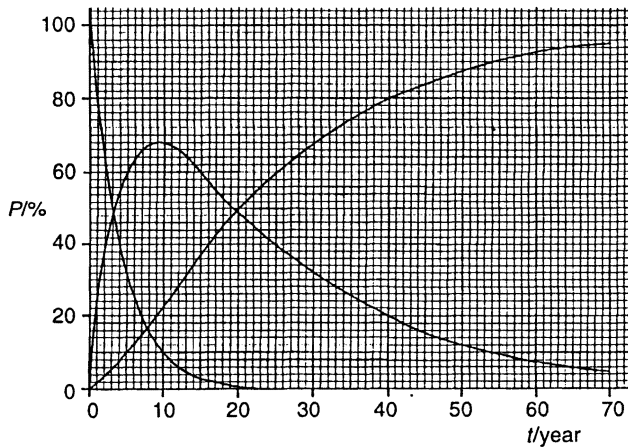

Fig. 59
- (c) For many unstable parent nuclei, the daughter product is itself radioactive. This may give rise to a radioactive series where there may be ten or more different radioactive daughter products. The variation with time t of the percentage number P of different nuclei in a radioactive sample is illustrated in Fig. 59. The parent nucleus has a daughter nucleus and, in turn, this daughter produces a further daughter.
- (i) On Fig. 59, label with the letter S the line representing the variation with t of the number of nuclei of the stable further daughter S. Give an explanation for your choice. [1]